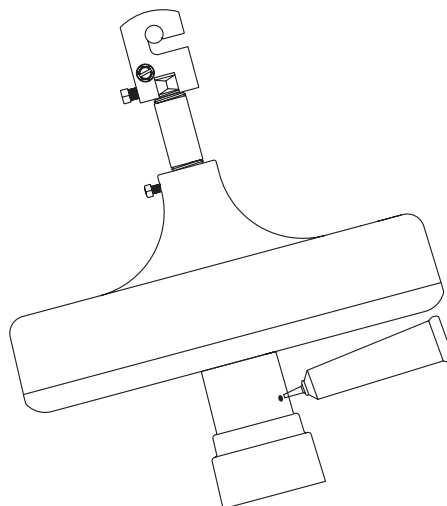

Figure 15 - Filling the oil hole
- C. Cut the tip off the oil tube, tilt the fan motor as shown in Figure 15, and place the tube into the oil hole of the switch housing.